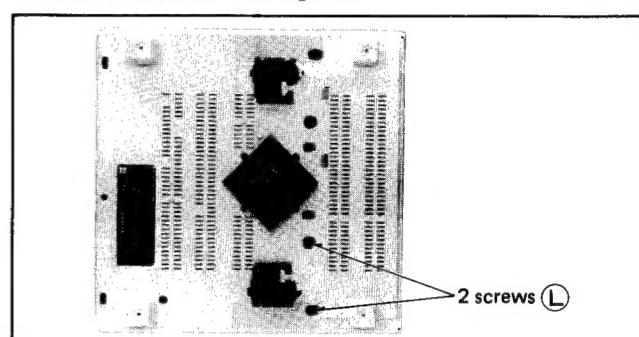

Fig. 12
- 1) Remove the two retaining 2 screws **(L)** from the tube shown in fig. 12.